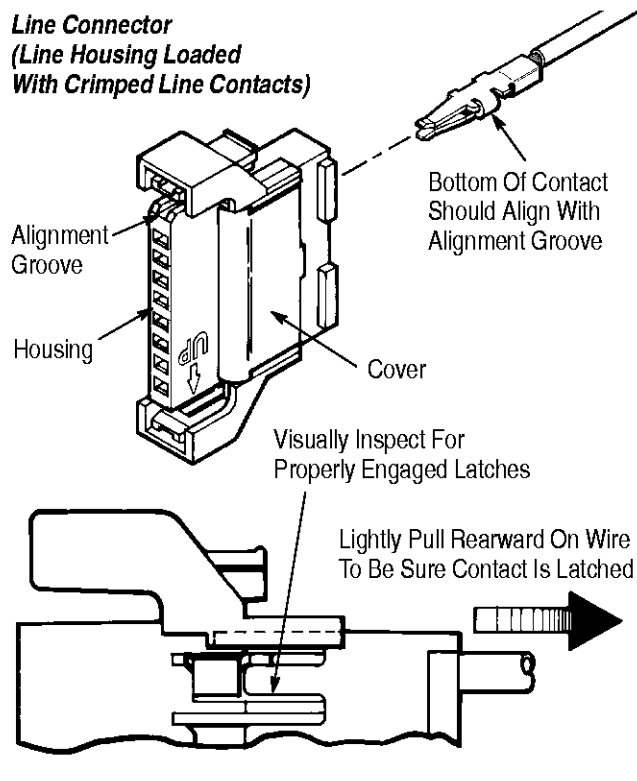

Figure 3
2. Insert contact into housing until the stabilizing legs of contact bottom inside housing. The latch of the housing must catch under the contact, as shown in Figure 3. Be sure contact is in straight alignment with circuit cavity.